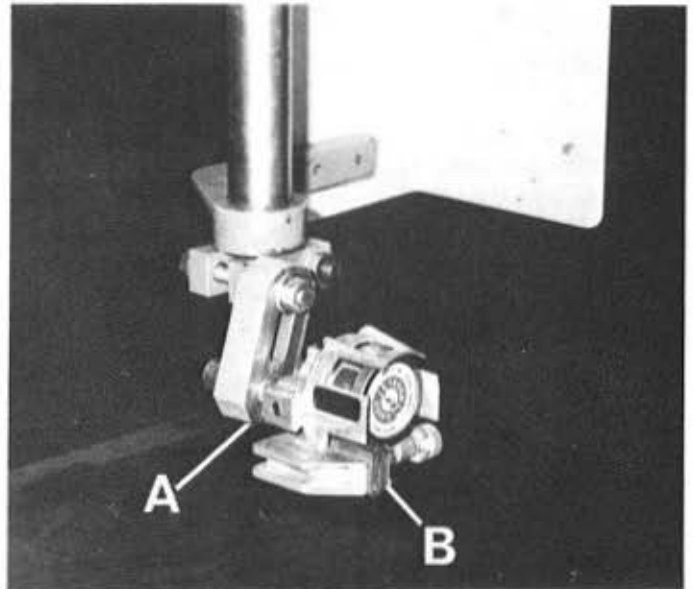

FIG 7
4. Loosen allen screw "A", FIG.7, and move guide "B" to extreme rear position.